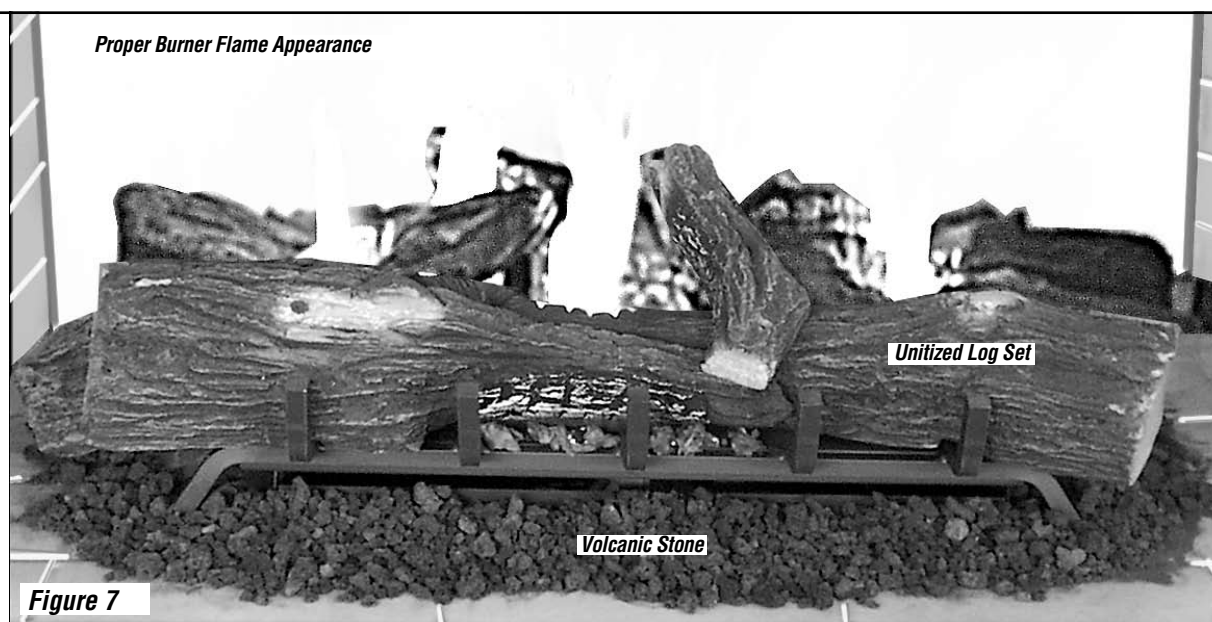

Figure 7
Ensure that the burner flame appearance resembles the flame shown in **Figures 7 and 10** and as described in *Flame Appearance and Sooting* on **Page 11**. The Homeowner must contact a qualified service technician at once if any abnormal condition is observed.
- Place the log set so that the four inner notches on the underside of the log set fit over the four risers located on the burner ends. See **Figure 7**. This procedure is accomplished primarily by feel, as the log set masks the burner risers as it is being installed.
- As a final check for correct log set placement, check that the four outer notches on the underside of the log set fit over the burner tines as indicated in **Figure 7**.
3. Allow the burner to operate for at least 15 minutes while observing the flame continuously to ensure that the proper flame appearance has been achieved (see **Figures 7 and 10**). If the following conditions are present, adjust accordingly.